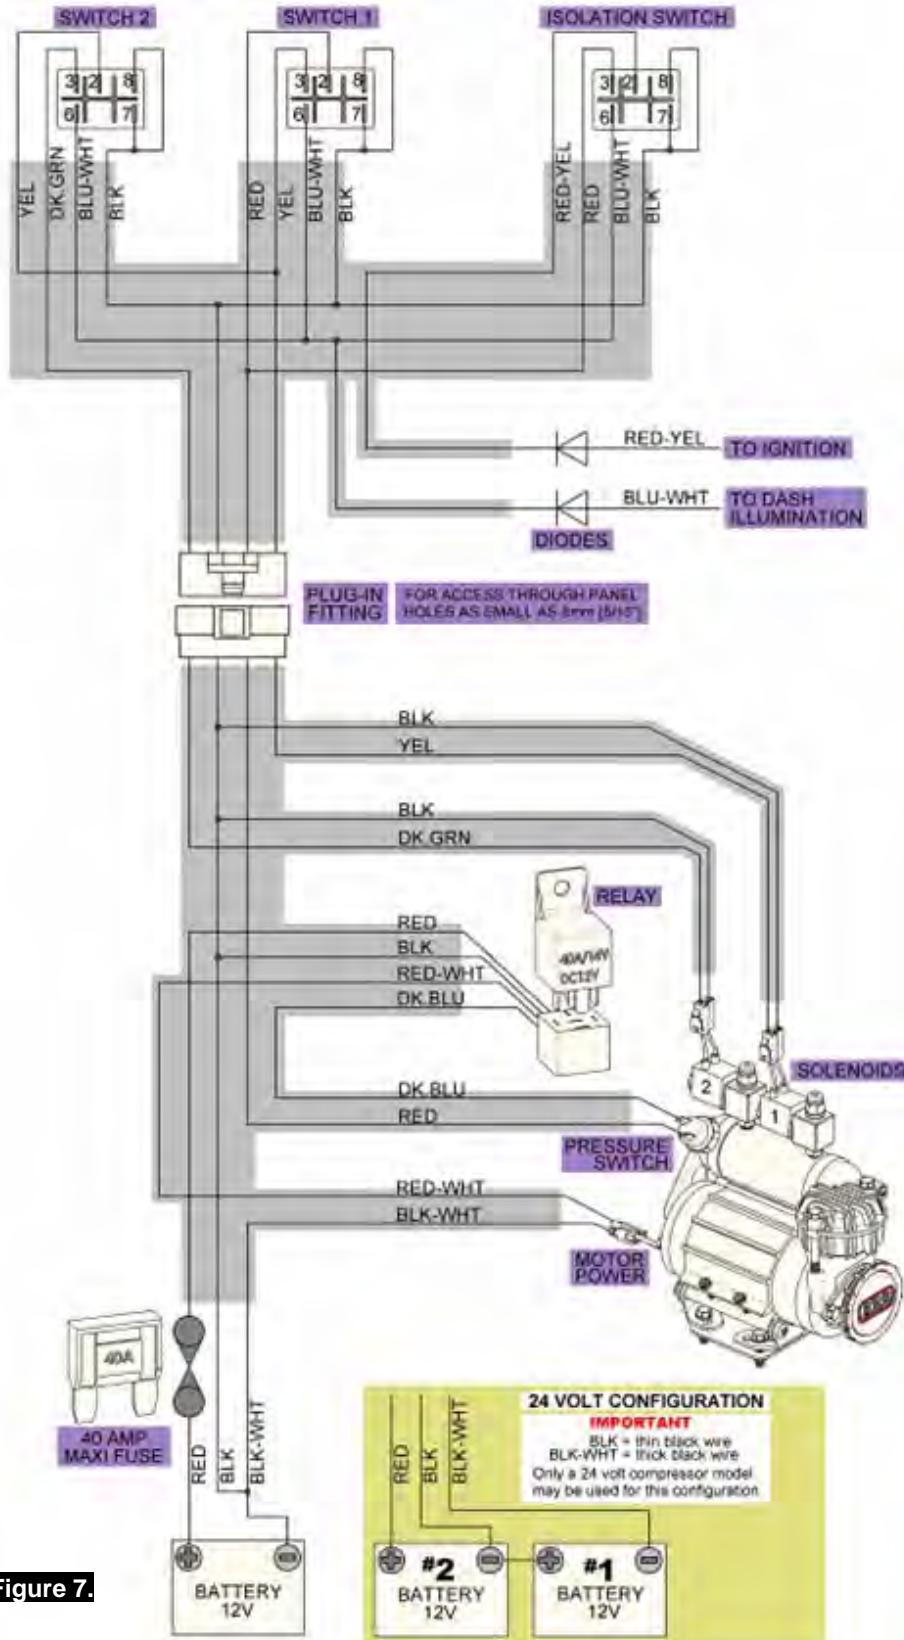
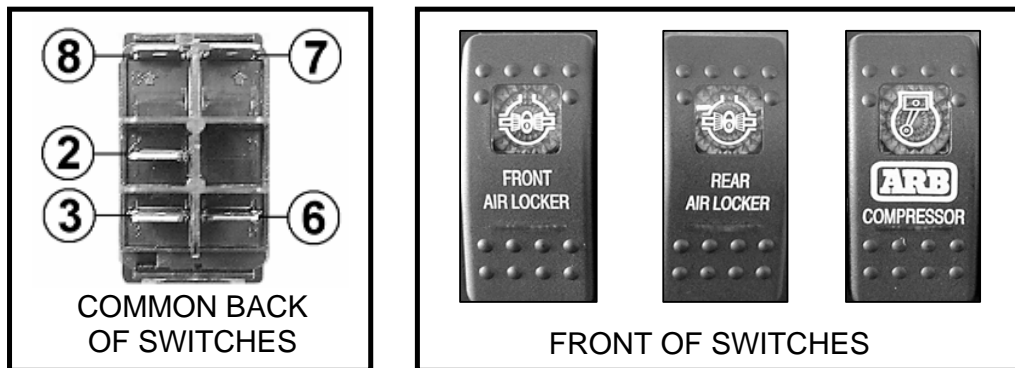

Figure 7.
Figure 8.
When wiring an ARB compressor switch, *Air Locker* pressure switch, *Air Locker* actuator switch(es) and *Air Locker* solenoid(s) to an ARB Air Compressor, all connections can easily be set up using only the supplied wiring loom (ARB #180409 shown in Figure 7.)
- Consulting the wiring diagram (Fig.7.) for wire colors, and the switch terminal illustration (Fig.8.), plug each of the female spade terminals onto their appropriate switch terminal.
- Identify which battery in the system will be used as the 24V negative (-) terminal (i.e., Battery #1 in the wiring diagram Fig. 7.) by connecting a multimeter across the positive (+) terminal of one battery to the negative (-) terminal of the other battery. If you have tested the correct negative (-) terminal then you will read approximately 24 volts on the multimeter, and this battery will be battery #1, and the other battery with the positive (+) terminal you have just tested will be battery #2 (refer to wiring diagram Fig. 7.).
The following describes an effective procedure for tracing an electrical fault in a CKMA12 or CKMA24 compressor which has been wired using a genuine ARB wiring loom (refer to the diagram in Figure 7.). All steps must be performed in the order listed here for an accurate assessment.